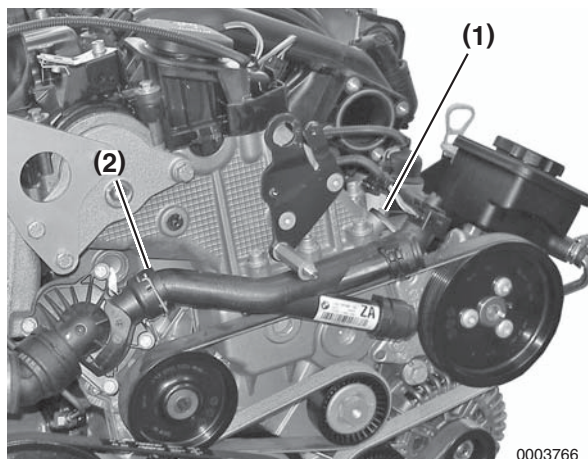

Figure 5-43
13. Connect oil cooler return pipe (Figure 5-43, (2)) to thermostat housing.
14. Install bolt (Figure 5-43, (1)).